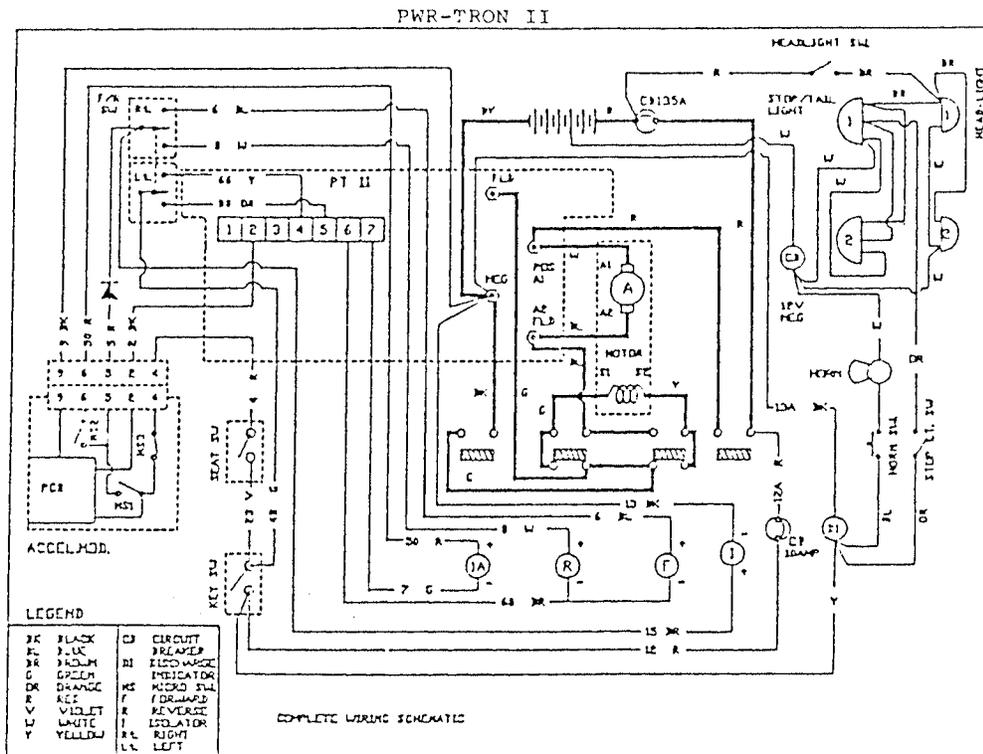

Figure 1
**CONTROL CIRCUIT (See Figure 1, Shown in light lines) Control Harness 75-146-21**
POWER CIRCUIT (See Figure 1, Shown in Heavy lines) Power Harness 75-147-21